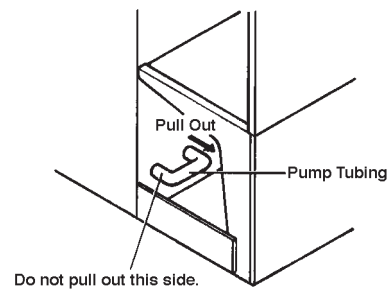

Fig. 5
- 5) Remove one end of the pump tubing (see Fig. 5). Drain the water tank. Replace the pump tubing in its correct position.